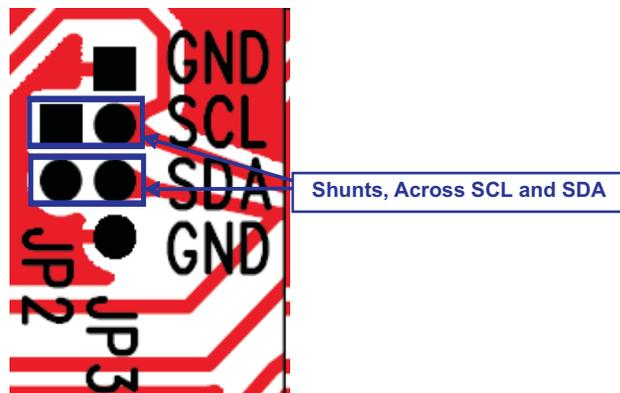

Figure 3. Place Shunts Horizontally Across SCL and SDA
3. Install shunts in JP2 and JP3 as shown in Figure 3. This sets the TPA2054D4 to accept I²C inputs from the EVM itself.